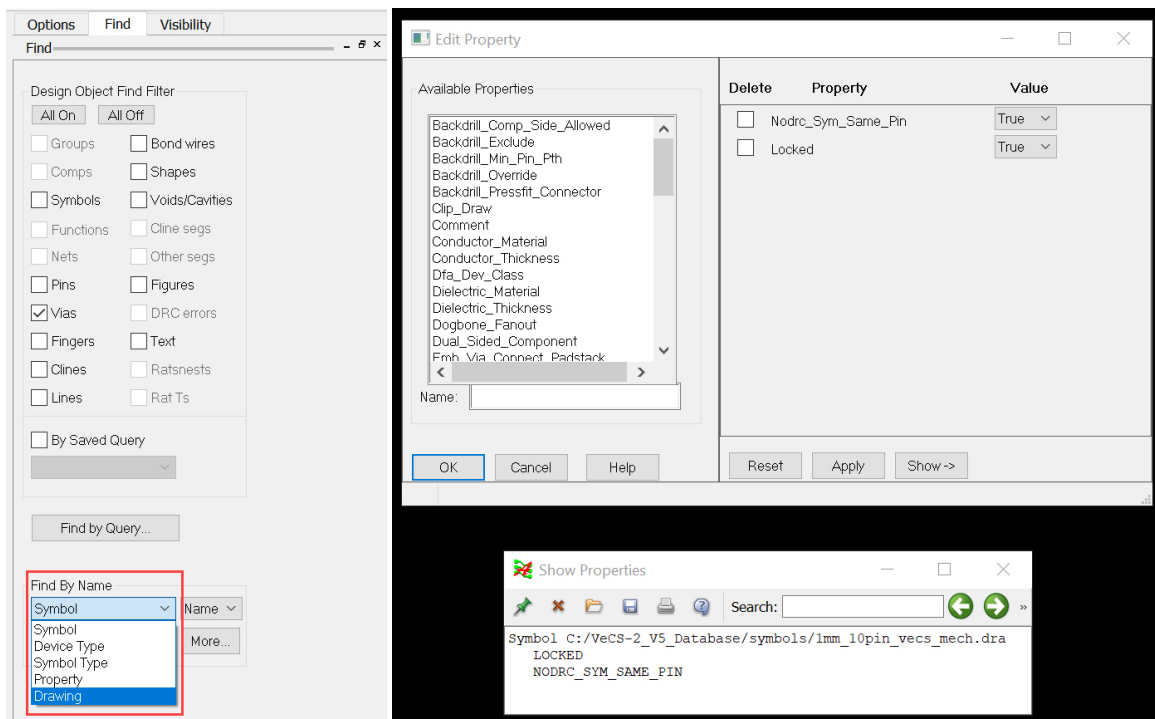

Figure 14: Setting up mechanical symbol.
- Using “edit > property” and the “find filter” feature to select “drawing” from the “find by name” pulldown (Figure 14), add the properties as outlined: